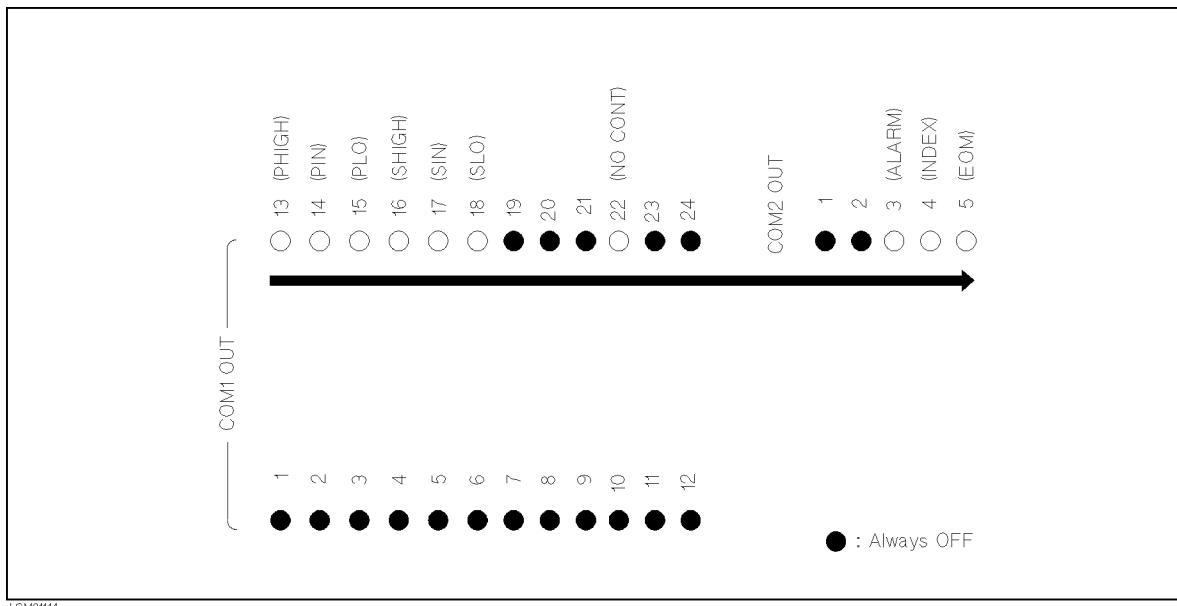

Figure 9-11. Handler interface Output Order
13. Confirm that the LEDs on the Handler Interface Tester light in the order shown in Figure 9-11, in accordance with the HP 4263B display.